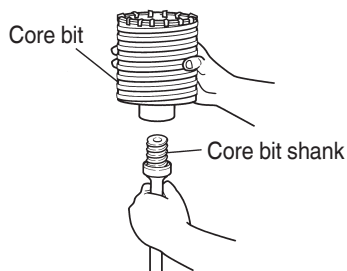

Fig. 16
- (1) Mount the core bit to the core bit shank. (Fig. 16)